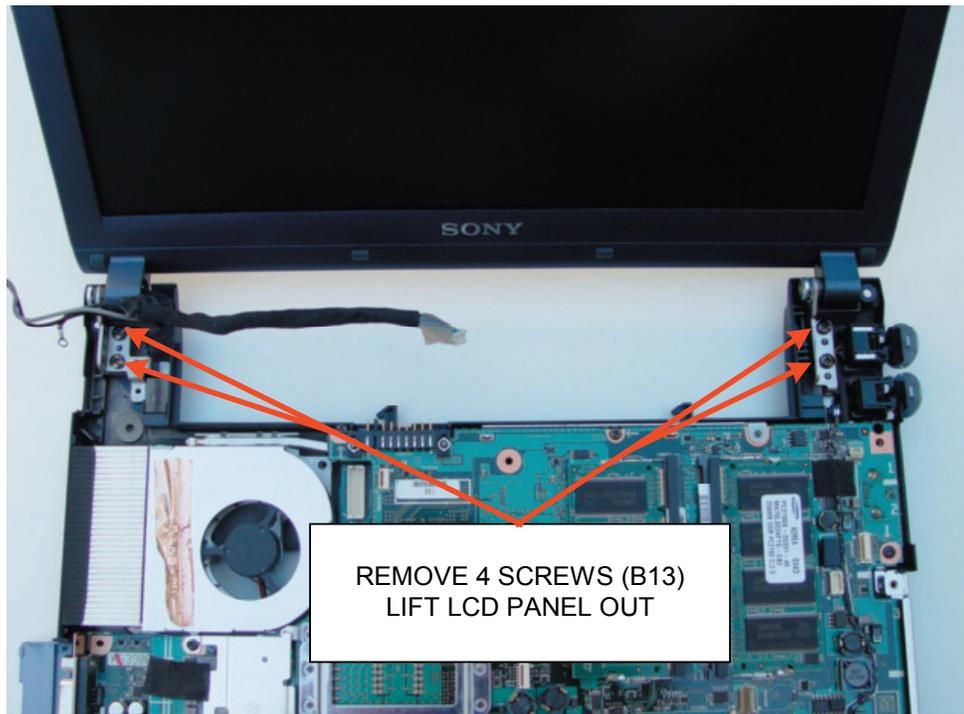

FIGURE 2-14 - LCD PANEL REMOVAL (step 3)
Step 3: Referring to Figure 2-14, remove the 4 screws (B13) securing the LCP panel hinges to the chassis. Remove the LCD panel and set aside.